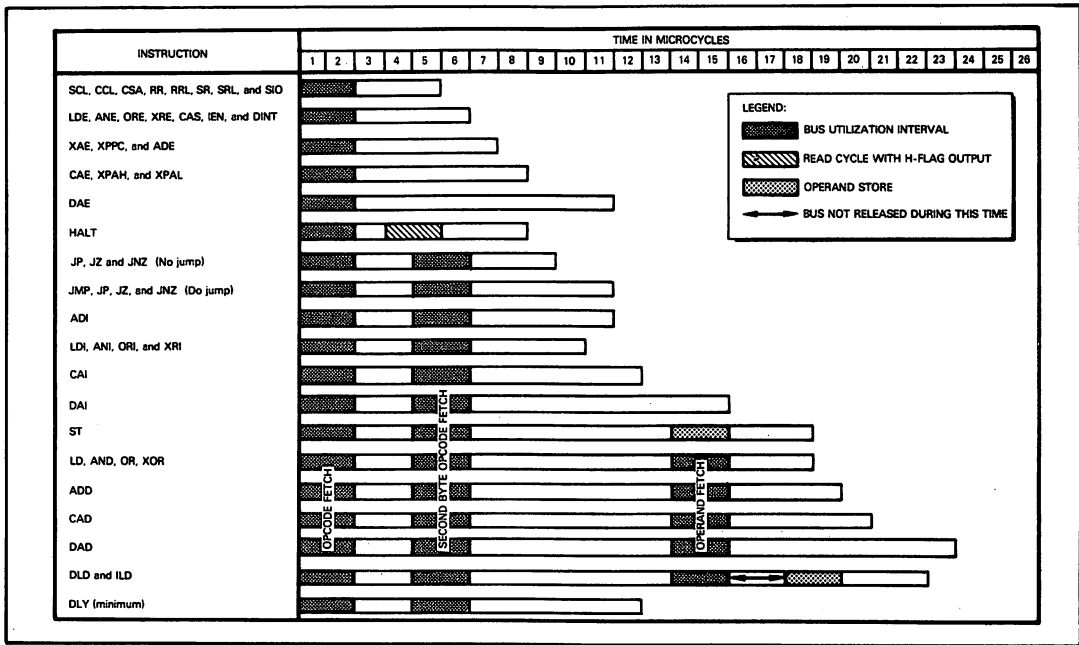

Figure 3-4. Bus Utilization of Each SC/MP Instruction
**Once the SC/MP CPU has control of the System Busses, an actual input or output cycle can begin.** As we mentioned earlier in this chapter, the execution of any SC/MP instruction includes some combinations of input/output cycles and internal machine cycles. **Figure 3-4 illustrates the bus utilization required for each of the SC/MP instructions, and also reveals an interesting, non-obvious fact about SC/MP input/output operations.** Observe that each bus utilization interval is shown as being two microcycles in duration. This is true because **each input/output operation effectively requires two microcycles.** The CPU spends a portion of the first microcycle gaining access to the System Bus and placing address and status information on the address and data lines. The actual data transfer (read or write) occurs during the second microcycle. This can be confusing if you are designing a DMA or multiprocessor system: the actual time that the bus is available is a great deal less than you would expect if you based your computations solely on the number of read and write cycles required for each instruction. To make this more clear, refer to Table 3-3, which lists the read cycles, write cycles, and total microcycles required for execution of each SC/MP instruction. If you total up each of the columns from this table, you come up with the following figures: